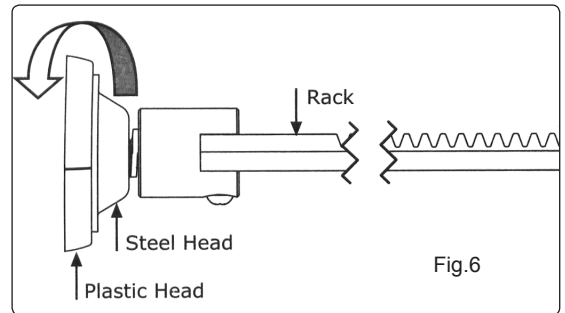

Fig.6
- 3.3.2. Loosen the M8 screw and remove the plastic head (fig.6).